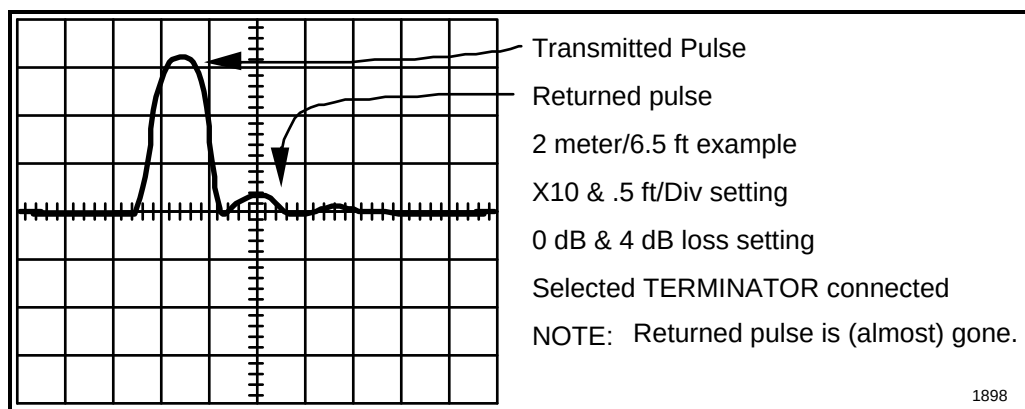
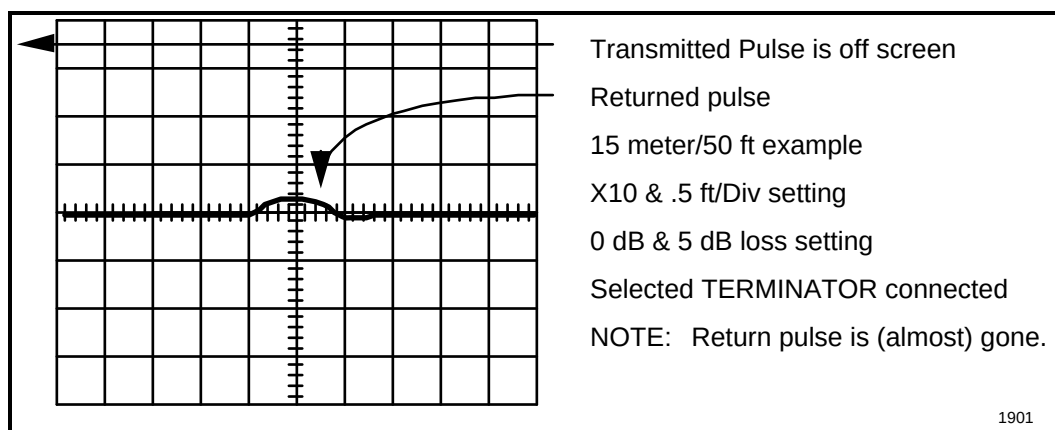

Figure C-5
Figure C-8
8. Ensure that the screen looks like Figure C-5 or Figure C-8.